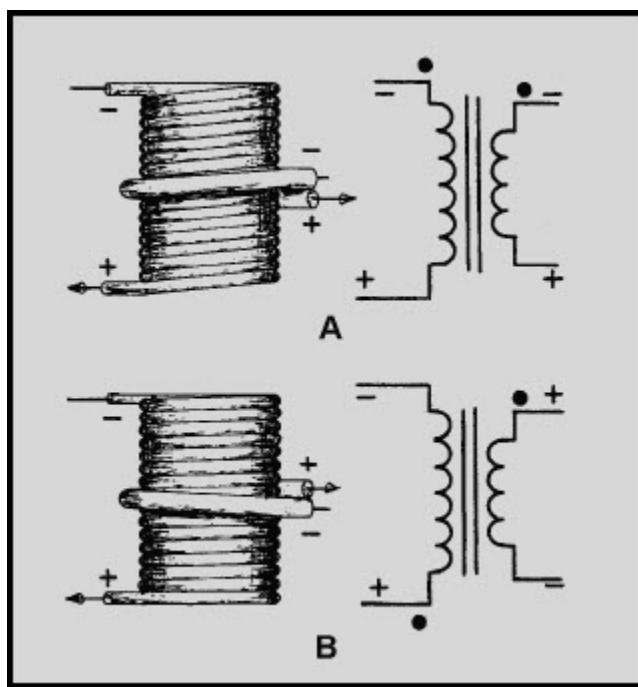

Figure 5-9 Instantaneous polarity depends on direction of winding
The use of phase-indicating dots is illustrated in figure 5-9. In part (A) of the figure, both the primary and secondary windings are wound from top to bottom in a clockwise direction, as viewed from above the windings. When constructed in this manner, the top lead of the primary and the top lead of the secondary have the **SAME** polarity. This is indicated by the dots on the transformer symbol. A lack of phasing dots indicates a reversal of polarity.